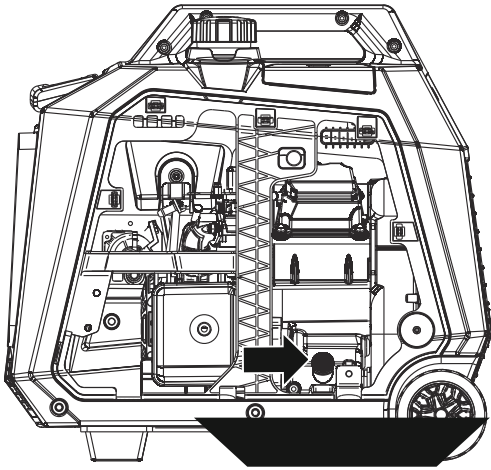

Figure 15: Place oil pan under oil fill/drain plug
4. Place oil pan (or suitable container) under the oil fill/ drain plug (see Figure 15).